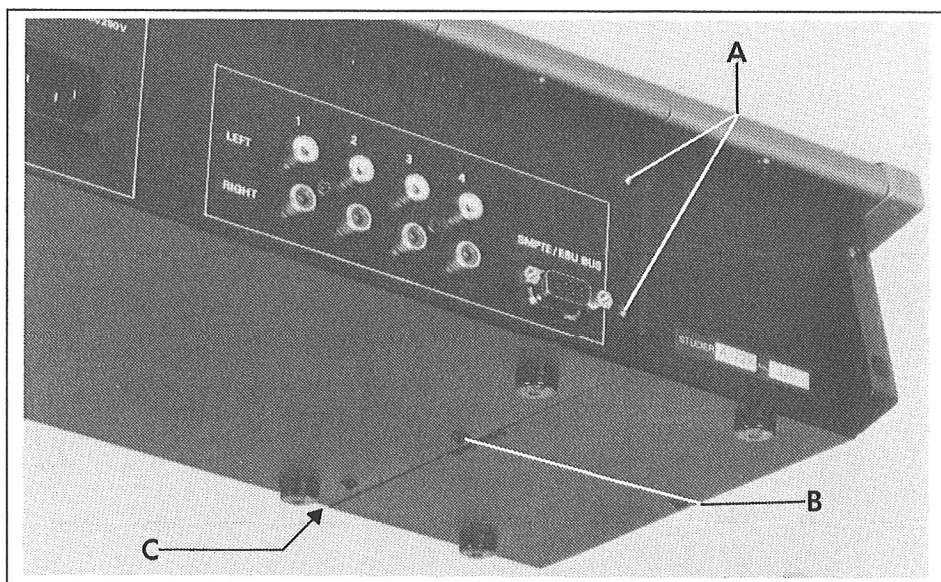

Fig. 3
- Remove the two screws A, one screw B and one screw C (fig. 3)